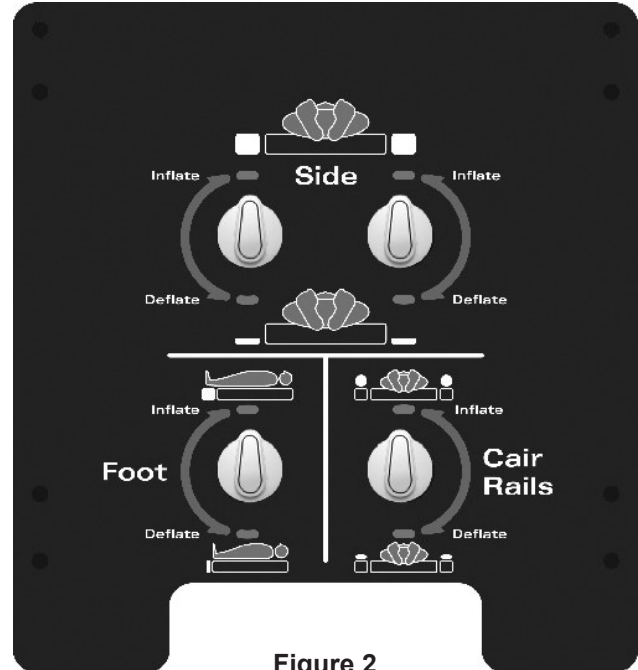

Figure 2
- If the therapy pad is not already on the mattress, attach it via the longitudinal zippers to the mattress. **Note:** This will require threading the hose set through the control window opening on the therapy cover located on the mattress side at the patient's left foot. Also attach the snaps around the control panel opening from the therapy cover to the mattress control panel in four (4) places so that the control panel is not obscured (Figure 2).
- The CairRails air bolsters can be inflated or deflated as required. Locate the control knob (Figure 2) on the lower right of the control panel on the mattress. Next, inflate/deflate the CairRails by moving the control knob to the up (inflate) or down (deflate) position.
6. Inflate the extension foot cells by turning the lower left knob on the mattress control panel (Figure 2) up. After 2-5 minutes the cells will inflate. Leave the knob in this position to maintain inflation.
For the Arise LAL® 1000 EX mattress, the control unit can be disconnected from the mattress as the 3" foam base will continue to support the patient. If the Bari10A bed frame is to be reduced in width for transport it may be necessary to deflate the CairRails. This can be done at the mattress control panel (Figure 2, pg 10) by turning the lower right control knob down.